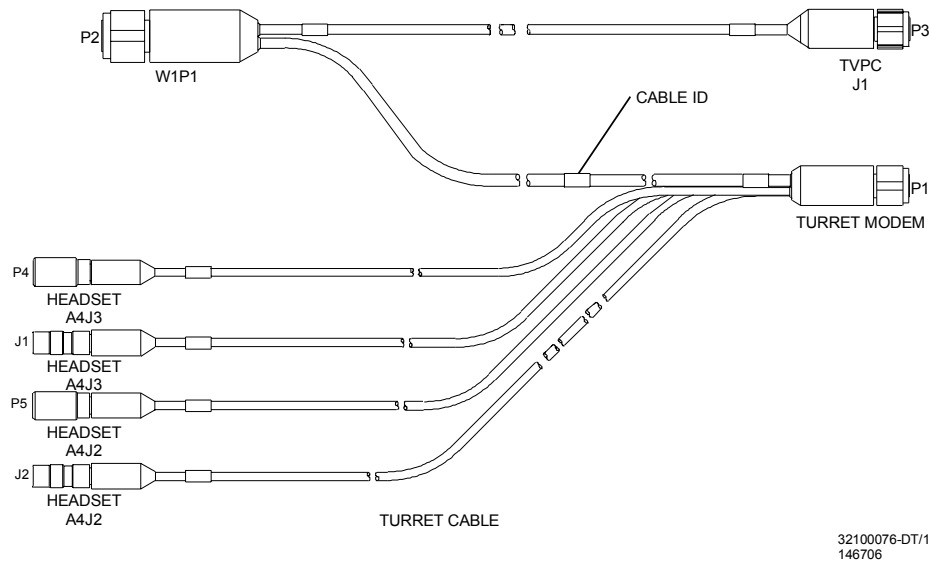

Figure 2-30. Turret Cable.
2.3.2.11 Turret System Cable. (See Figure 2-30.)